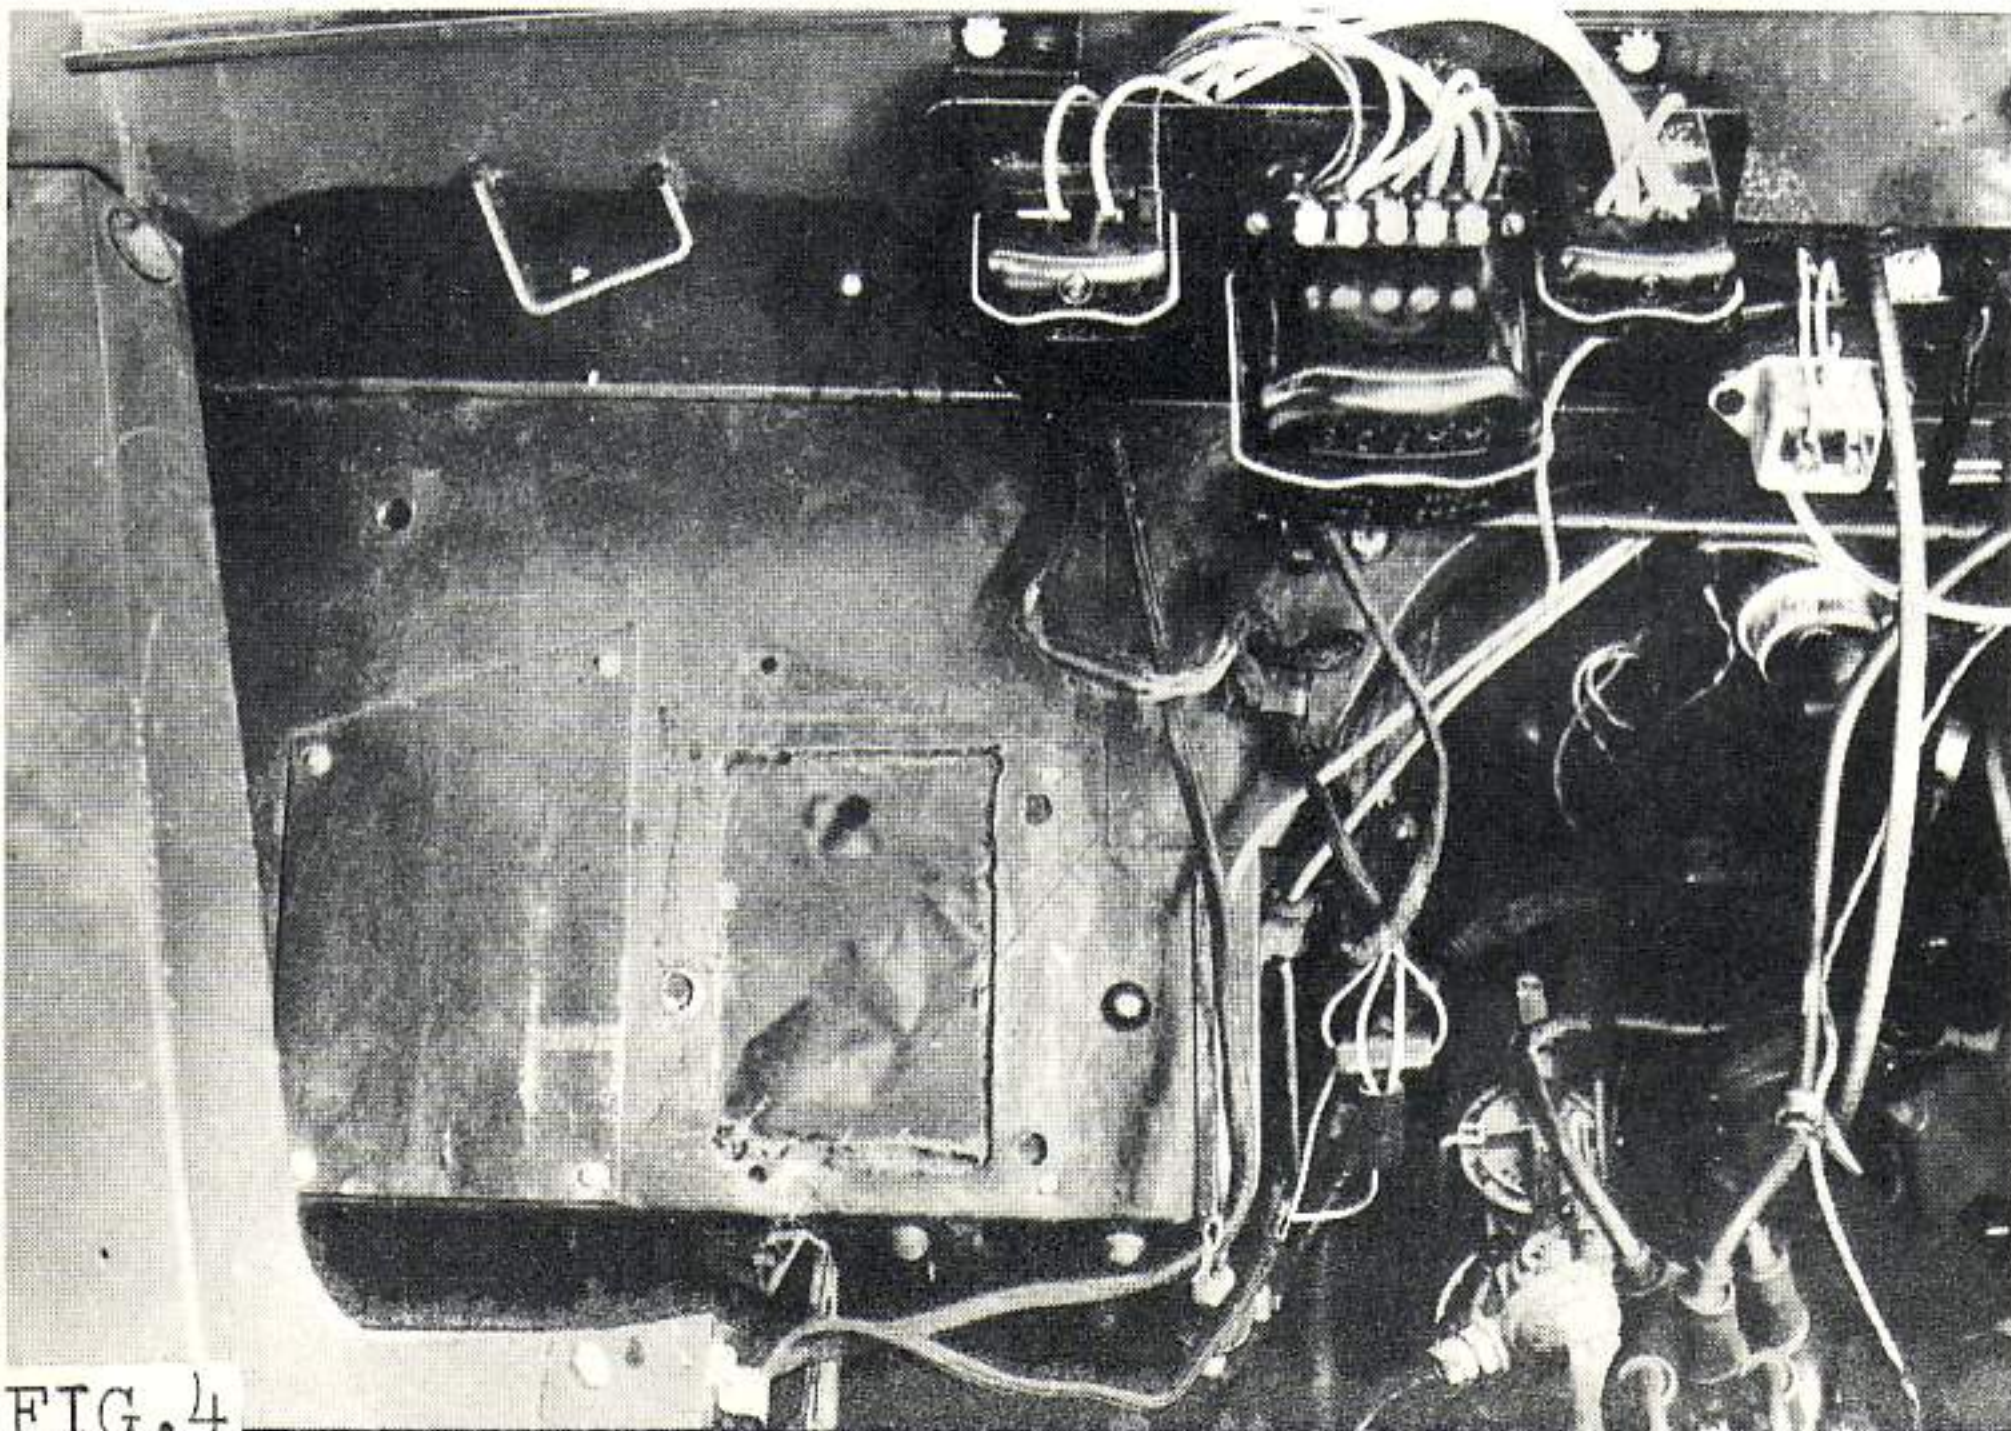

FIG. 4
5. With a hack-saw cut back the top of the vertical chassis bracket as shown in fig. 4.
6. Remove the four rivets locating the cover plate, nearest to the engine, on top of the footwell. fig. 4.